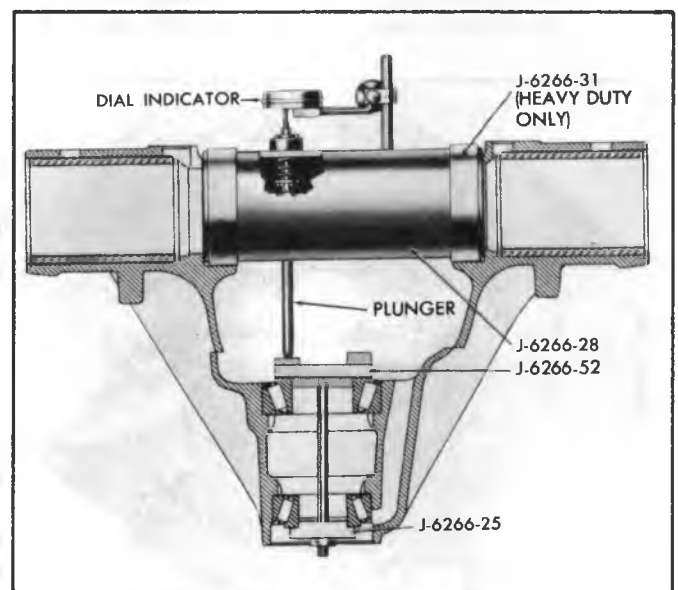

Fig. 12B-Installed View of Pinion Depth Gauge (Truck Axle)
3. For Truck: Position J-6266-52 Pinion Depth Setting Gauge Plate in pinion rear bearing. See Figure 12B. Gauge plate has two gauging surfaces.